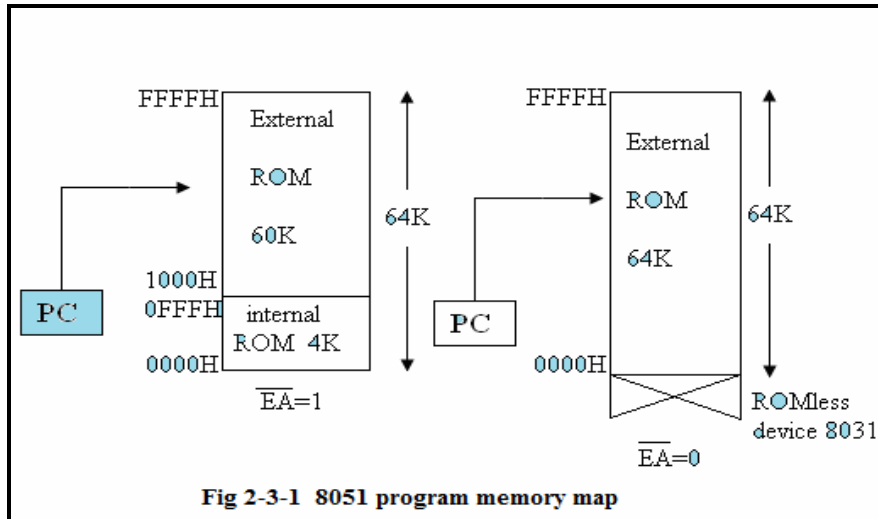

Fig 2-3-1 8051 program memory map
The 8051 contains 4K-byte internal program memory, 0000H-0FFFH, and is expandable up to 60K bytes of external program memory. Program memory address is determined by the contents of program counter (PC). The map of 8051 program memory is shown in Fig. 2-3-1.